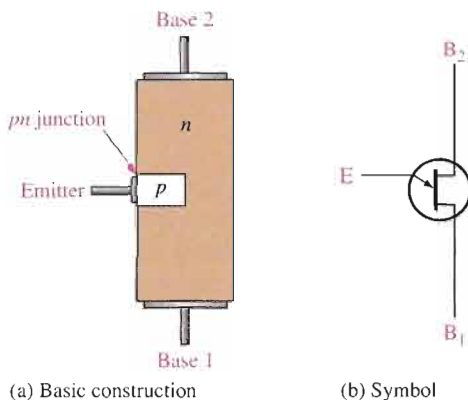

FIGURE 11-33
The **UJT** (unijunction transistor) is a three-terminal device whose basic construction is shown in Figure 11-33(a); the schematic symbol appears in Figure 11-33(b). Notice the terminals are labelled Emitter (E), Base 1 (B_1), and Base 2 (B_2). Do not confuse this symbol with that of a JFET; the difference is that the arrow is at an angle for the UJT. The UJT has only one *pn* junction, and therefore, the characteristics of this device are different from those of either the BJT or the FET, as you will see.